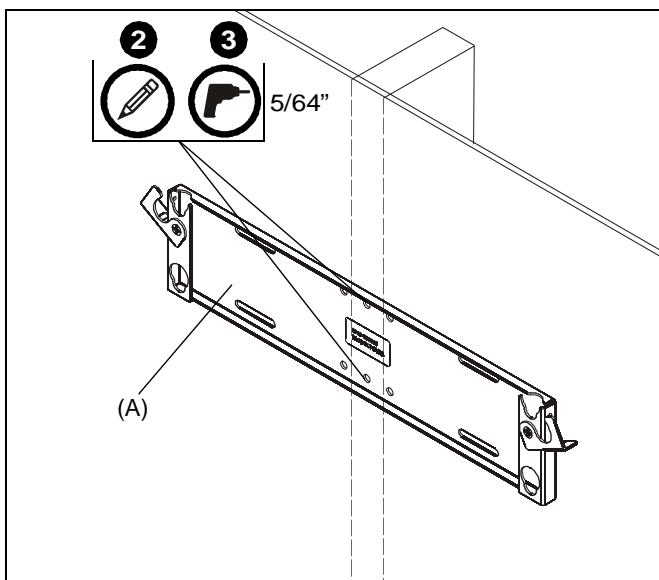

Figure 5
2. Using speaker bracket (A) as a template, mark mounting hole locations. (See Figure 5)
3. Drill two 5/64" holes in wood stud at marked locations. (See Figure 5)